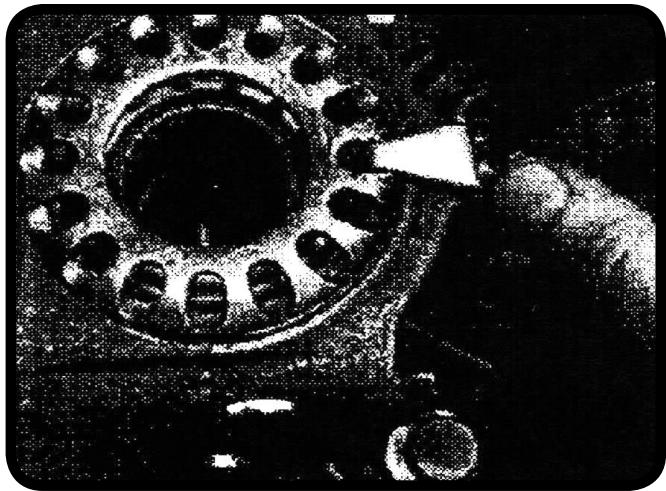

Figure 14
cap down to meet the case. Be sure that the cap threads fit into those in the adjuster. Do not force anything. The cap should slide down very close to the carrier surface. Tighten the bolts until they are snug (see **Figure 14**).
10. Install the adjuster locks and torque the bolts. Be sure that they are located in the marked holes (as shown in **Figure 14**).